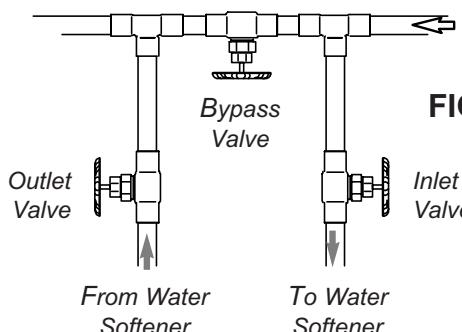
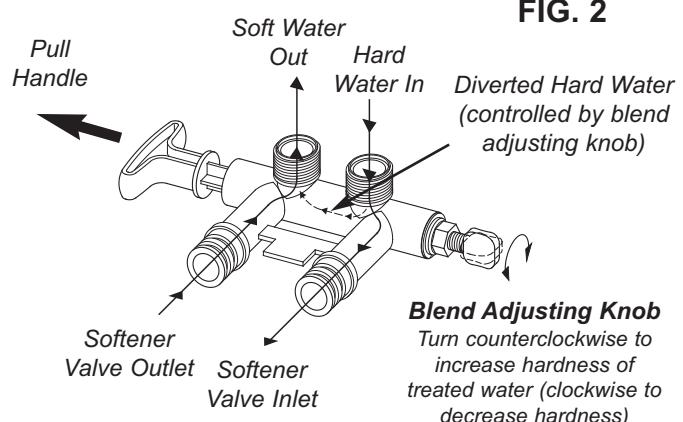

FIG. 1
FIG. 2
Always install either a single bypass valve (provided), as shown in Figure 2 and 3, or, if desired, parts for a 3 valve bypass system (not included) can be purchased and assembled, as shown in Figure 1. Bypass valves allow you to turn off water to the softener for maintenance if needed, but still have water in house pipes.
15. Place the bypass valve (single or 3-valve) into the "bypass" position. See Figures 2 & 3/